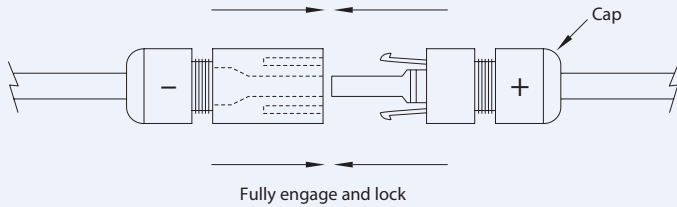

Figure 6: Series interconnection of a male (-) and female (+) connector
- These Solar PV modules are provided with two (2) stranded, sunlight resistant output cables that are terminated with PV connectors ready for most installations. The positive (+) terminal has a female connector while the negative (-) terminal has a male connector. The module wiring is intended for series connections [i.e. female (+) to male (-) interconnections] (Fig. 6), but can also be used to connect suitable third-party electrical devices that may have alternative wiring configurations so long as the manufacturer's instructions are followed.
- Use field wiring with suitable cross-sectional areas that are approved for use at the maximum short-circuit current of the PV module. We recommend installers use only sunlight resistant cables qualified for direct current (DC) wiring in PV systems. The minimum wire size should be 4 mm2 (see Table 1).